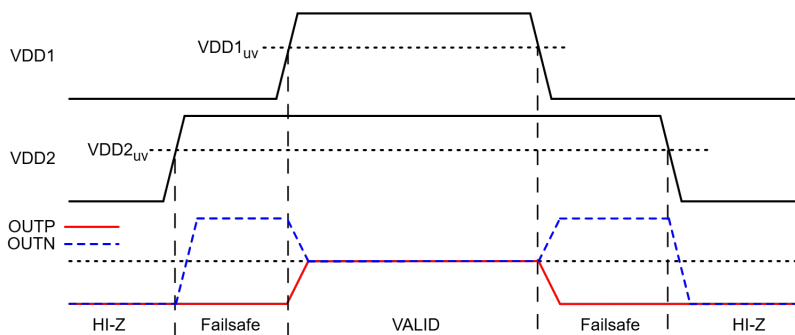

Figure 8.4 Typical Output When Input is 0V
- **Missing high-side power supply state:** When the low-side of the device ($VDD2$) is properly powered and within the recommended operating conditions, but the high-side power supply ($VDD1$) is below the $VDD1_{UV}$ threshold, the OUT pin is driven to GND2. The waveform of OUT refers to Figure 8.4 when $VDDx$ is missing.
Figure 8.4 illustrates the operating states under different combination of power supply states.